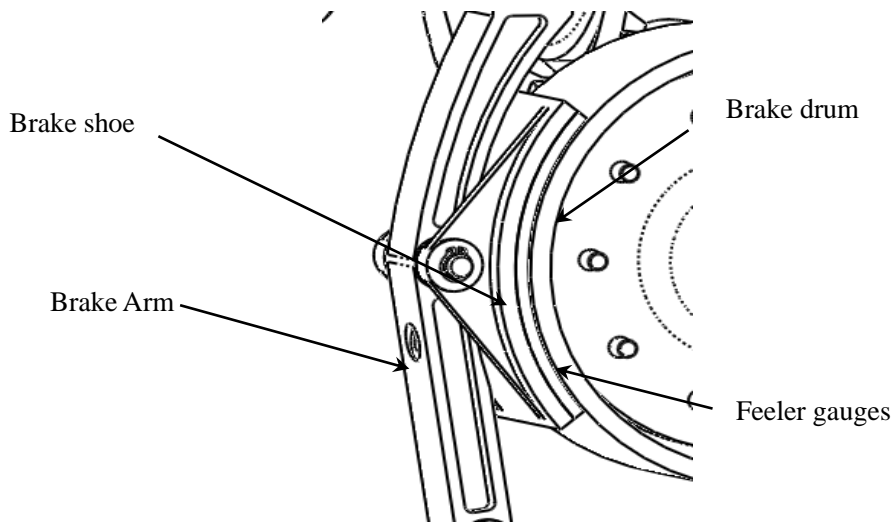

Figure 13 Brake gap
2. Measure the gap at the bottom of the Brake Lining and the drum, verify it is 0.1-0.5 mm (0.004"~0.02") with feeler gauges, and make sure the gap is about uniform from top to bottom. If the gap on the top is too big, loosen locknut with open end wrench 18 mm and tighten the bolt clockwise with hex wrench 6mm to reduce it. If the gap is too small, loosen the bolt counter-clockwise to increase the gap. See Figure 13.